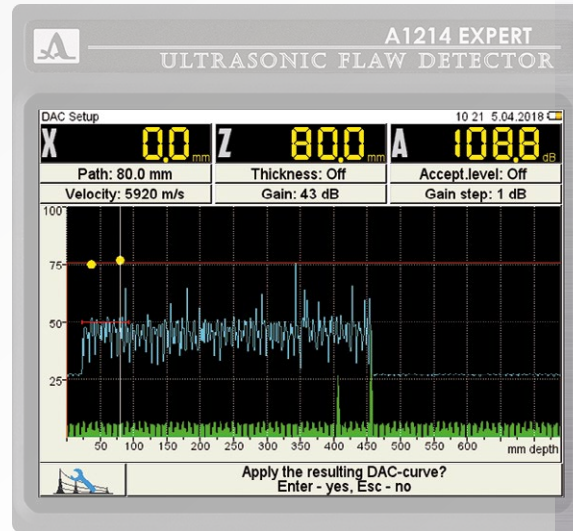

Figure 28
- confirm or cancel the DAC curve (Figure 28).